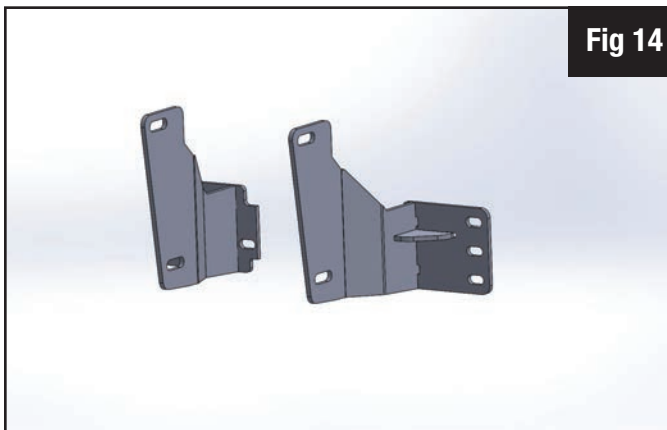

Fig 14
B) Using the OEM hardware attach your New Iron Cross brackets to the frame. Hand tighten at this time to allow for final adjustment. Brackets should have just over 28" of space between them. Fig 14.